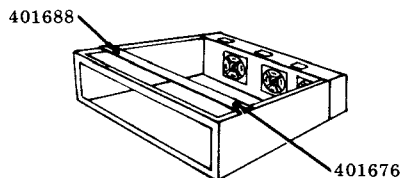

Fig. 58
Step 2 — Loosen 401676 screw, remove 401688 thumbscrew and swing bar aside out of the way (Fig. 58).